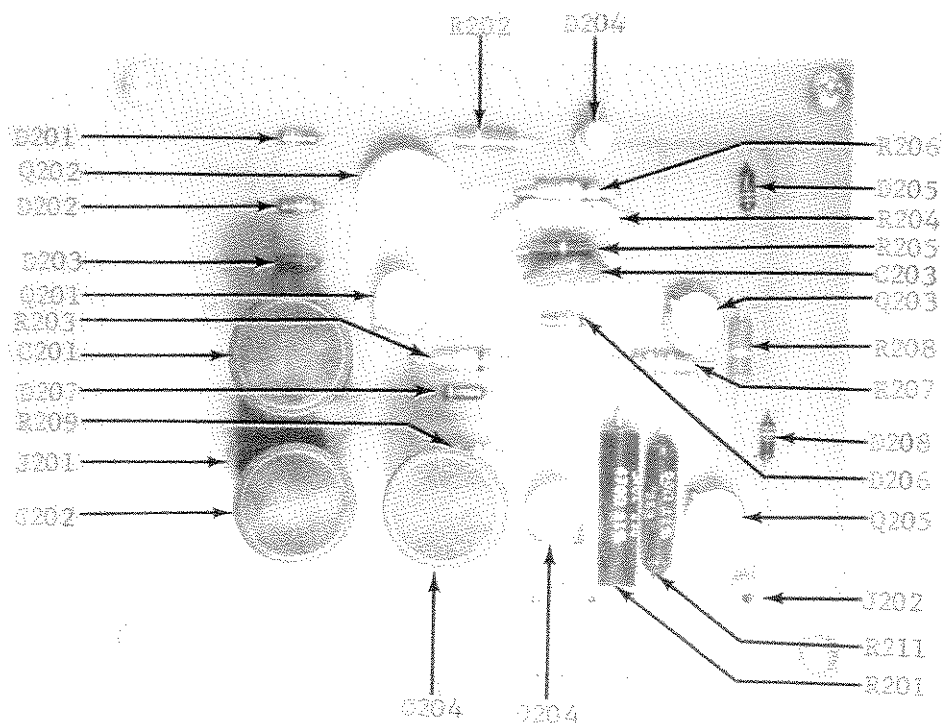

FIGURE 11. Component Locations on Printed Circuit PC-94.
1. Set the POLARITY Switch to + and connect the dc voltmeter between the black test jack, J202, and the emitter of transistor Q202 (Figure 11). The voltage should be -11.6 volts.
3. Measure the voltage at the anode of diode D204 (Figure 11). It should be -17.1 volts $\pm 10\%$. If this bootstrap voltage is not sufficient, transistor Q203 (Figure 11) will not operate and transistors Q201 and Q202 will be cutoff.